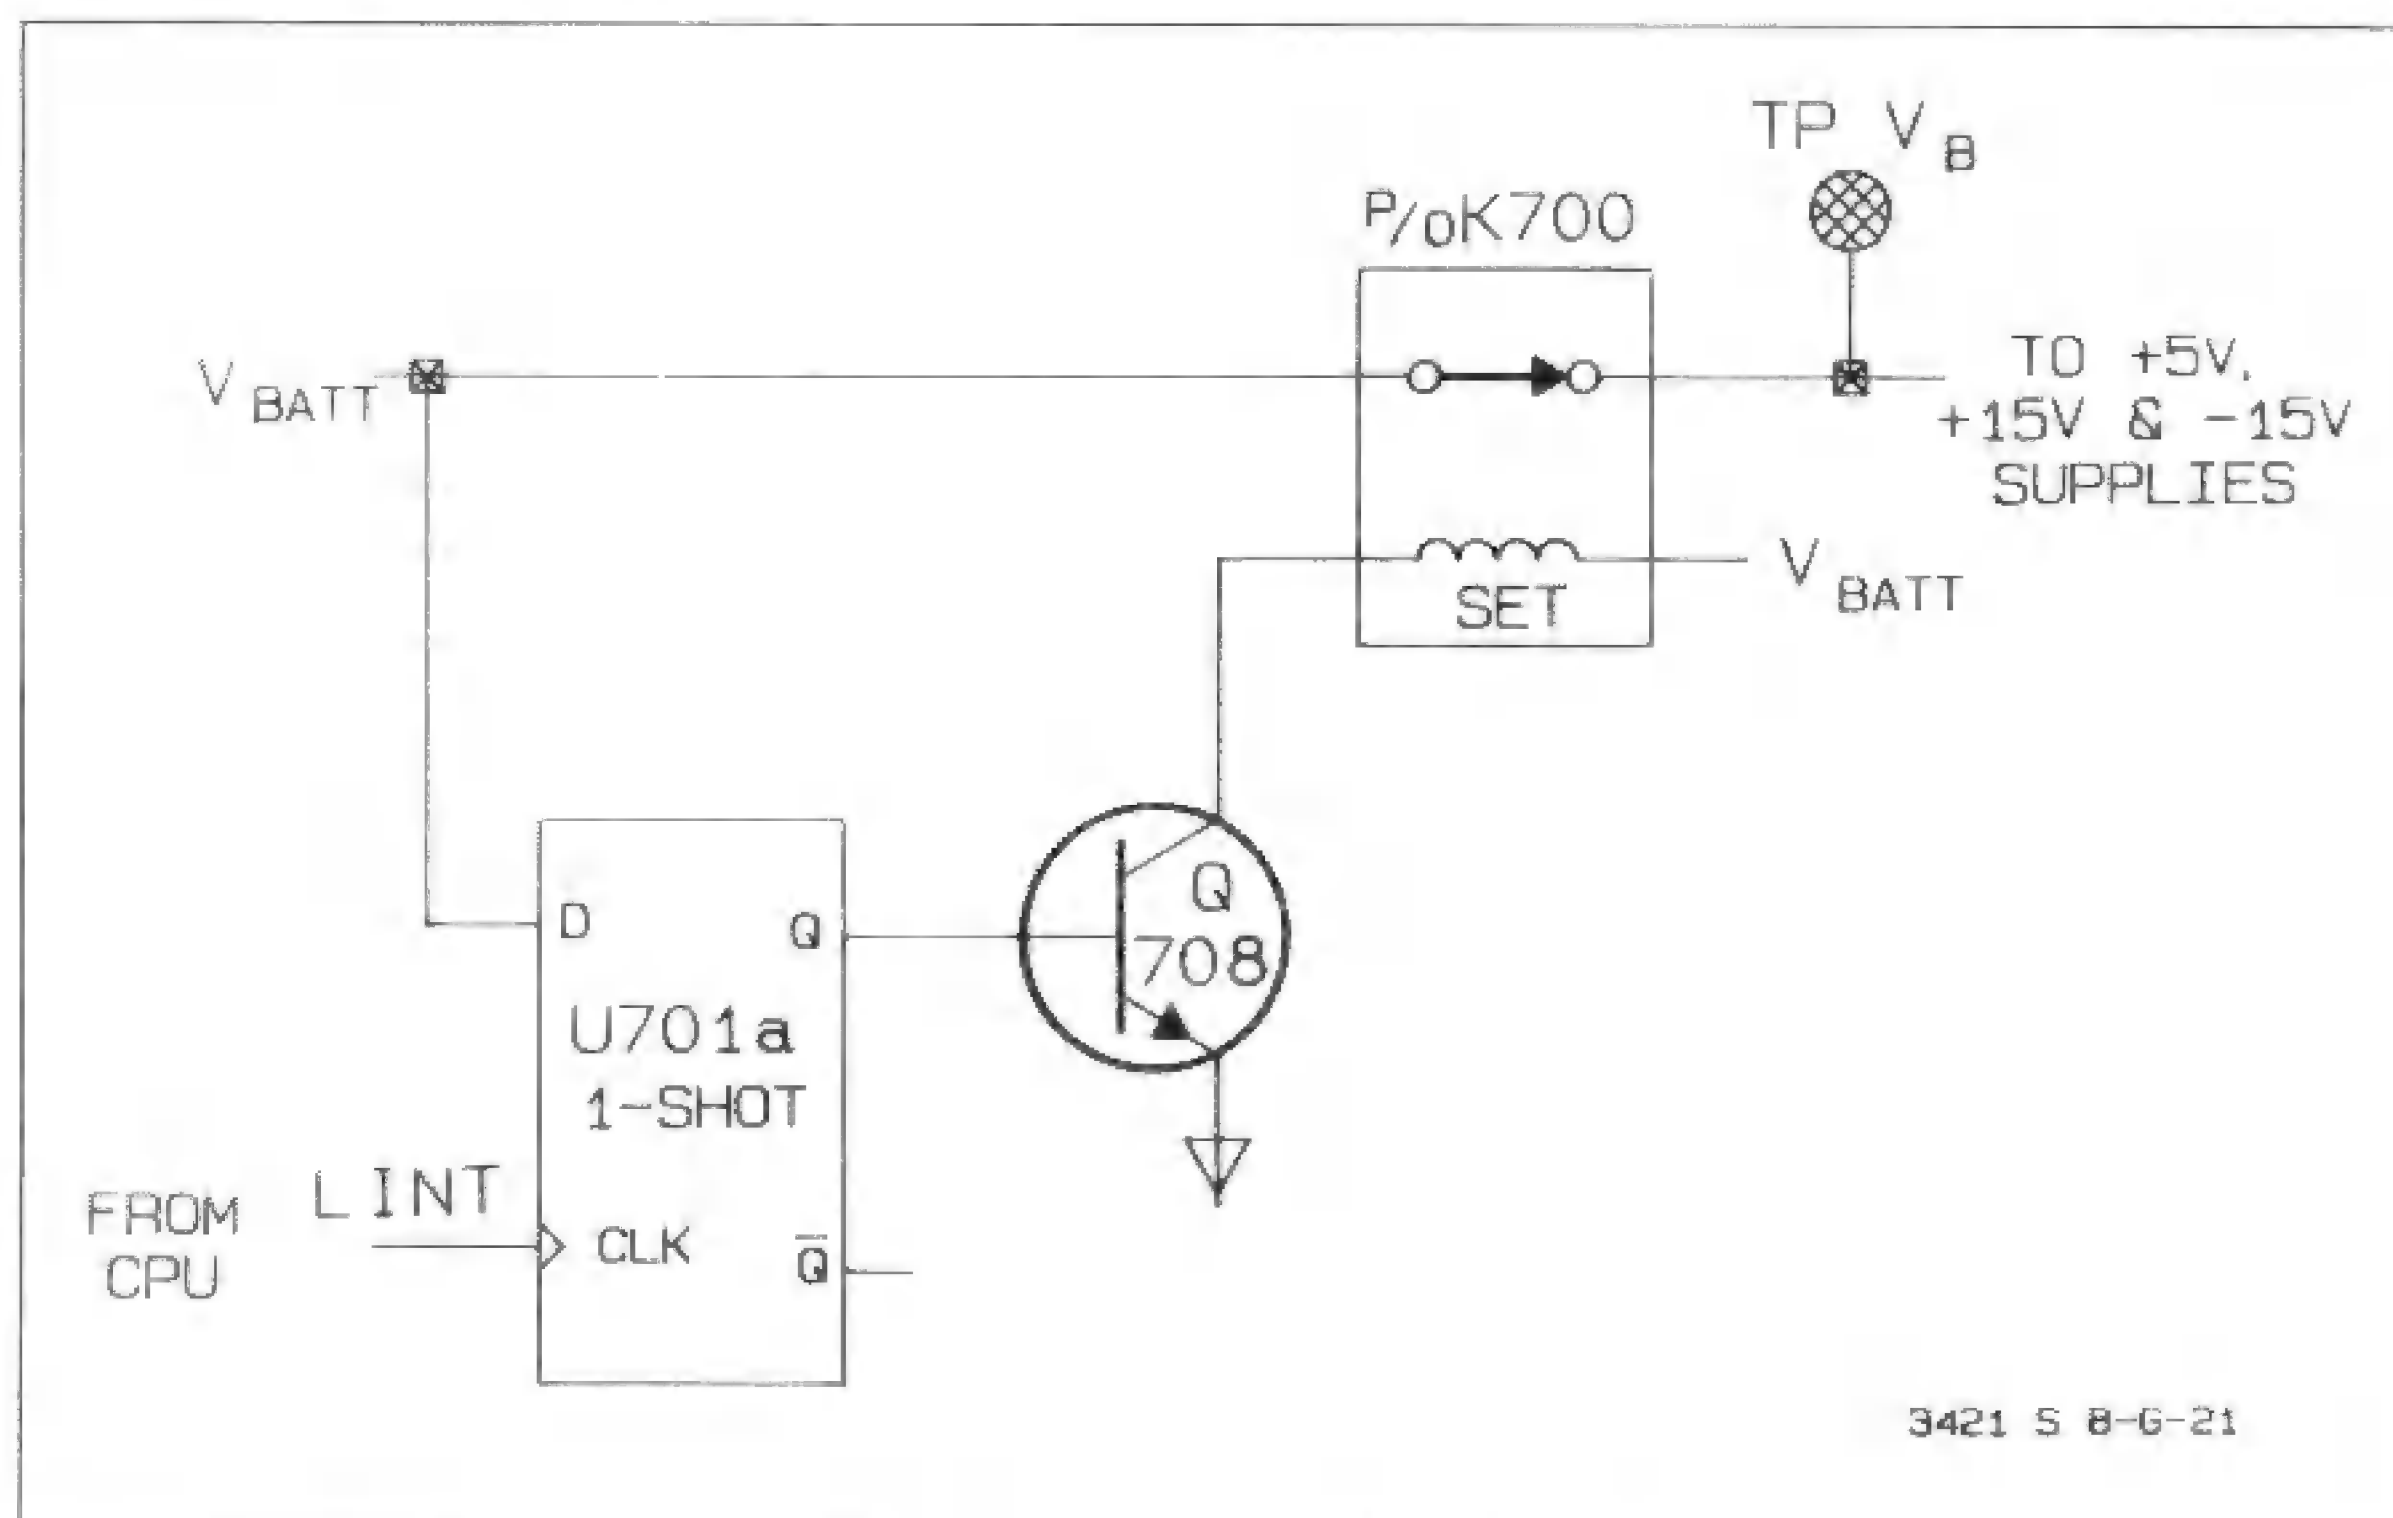

Figure 1-8-G-21. Simplified Schematic of the Back-Up Power Down Circuitry
**1-8-G-126. Power Up Circuit.** This circuit is used to restore  $V_B$ , +5V, +15V, and -15V to the HP 3421A. A simplified schematic of the power up circuitry is shown in Figure 1-8-G-22 and is explained in the next paragraph.